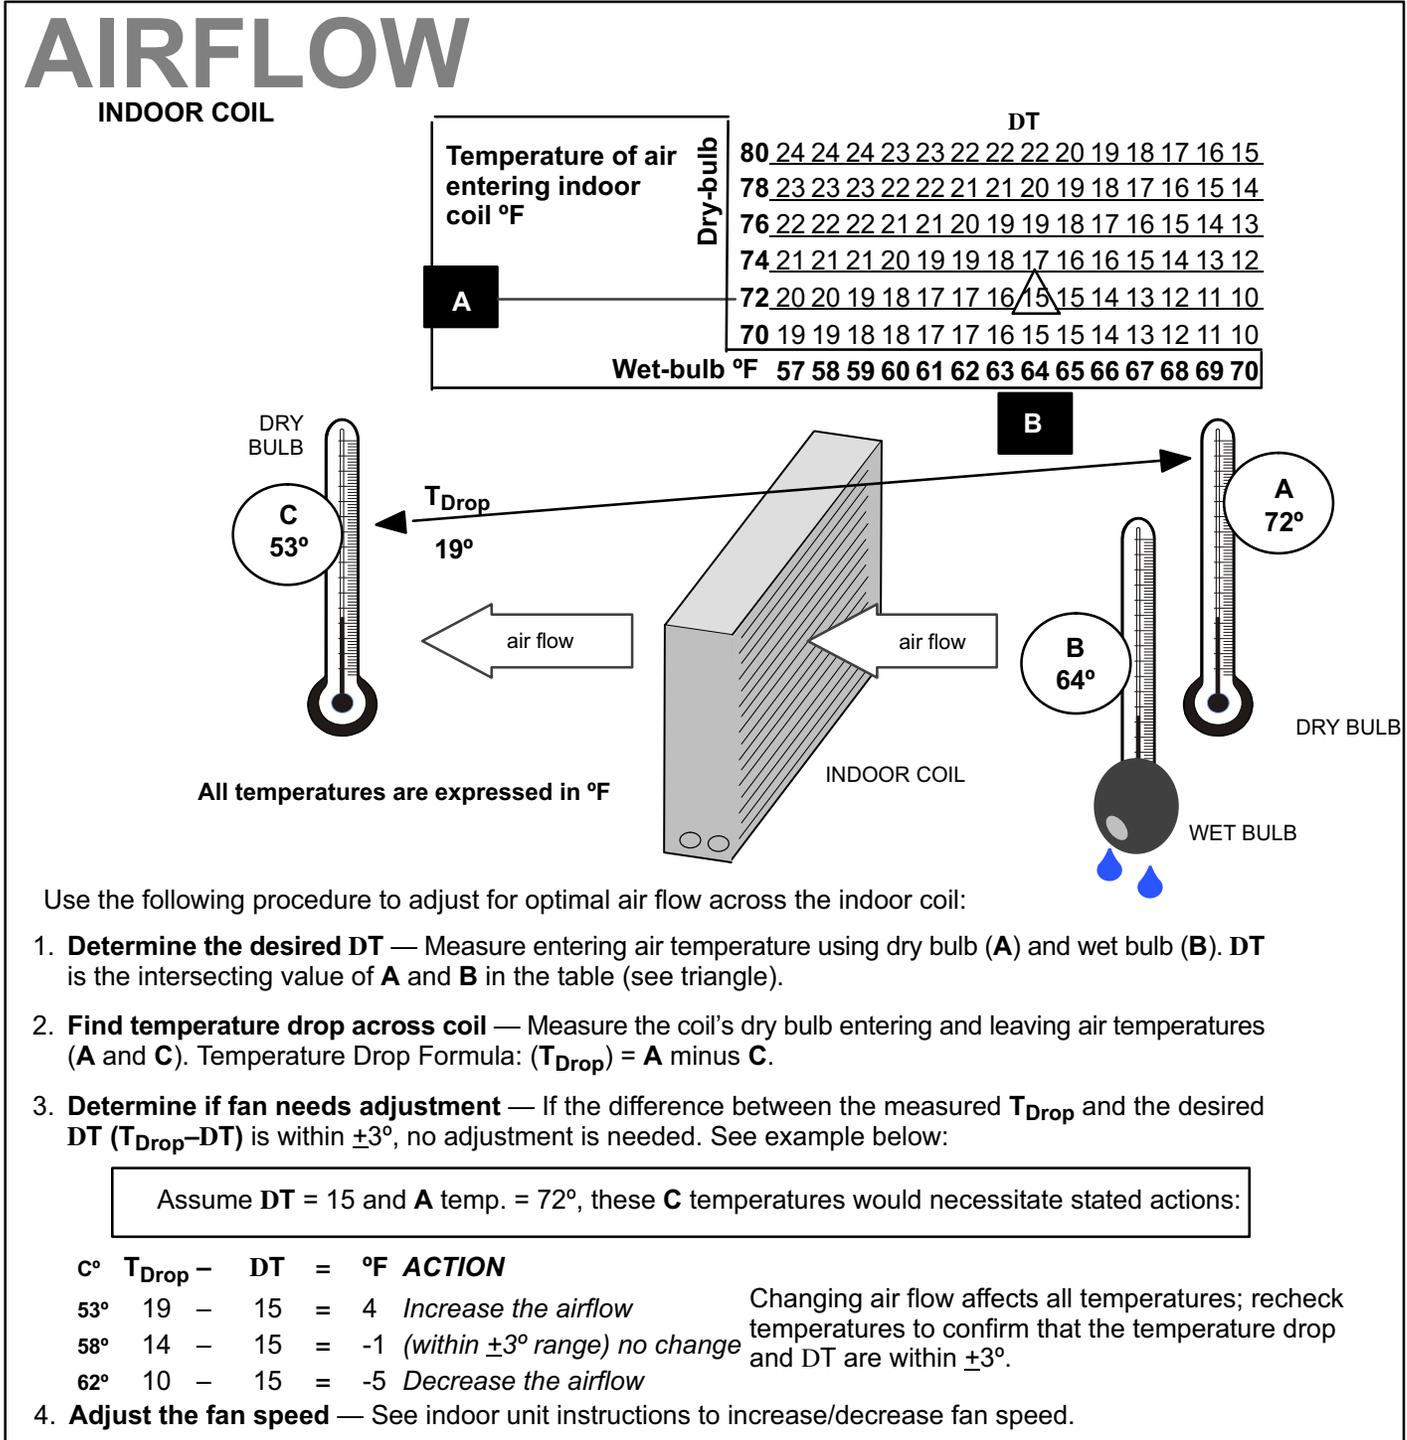

Figure 14. Checking Indoor Airflow over Evaporator Coil using Delta-T Chart
Check airflow using the Delta-T (DT) process using the illustration in Figure 14.
1. Confirm proper airflow across coil using Figure 14.